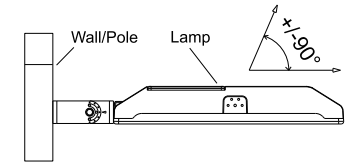

Figure 18
Step 3: Connect the fixture to the bracket and tighten the screws; connect the wires properly and put them into junction box. (Figure 18)
Notice: Adjustable angle is 0~+/-90° (Figure 18)